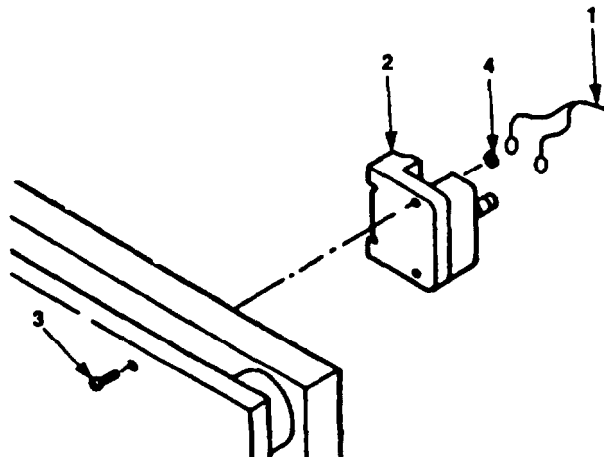

Figure 4-49. Run Relay (K2) Replacement.
4.13.9.1 Removal. Refer to Figure 4-49 and proceed as follows:
- a. Tag and disconnect wires (1) from relay (2).
- b. Remove two screws (3) and nuts (4) from front of control panel.
- c. Remove relay (2) from control panel.
4.13.9.2 Installation. Refer to Figure 4-49 and proceed as follows:
- a. Position relay (2) in place on back of control panel.
- b. Install two nuts (4) and screws (3) into relay (2) through front of control panel.
- c. Connect wires (1) to relay (2) and remove tags.